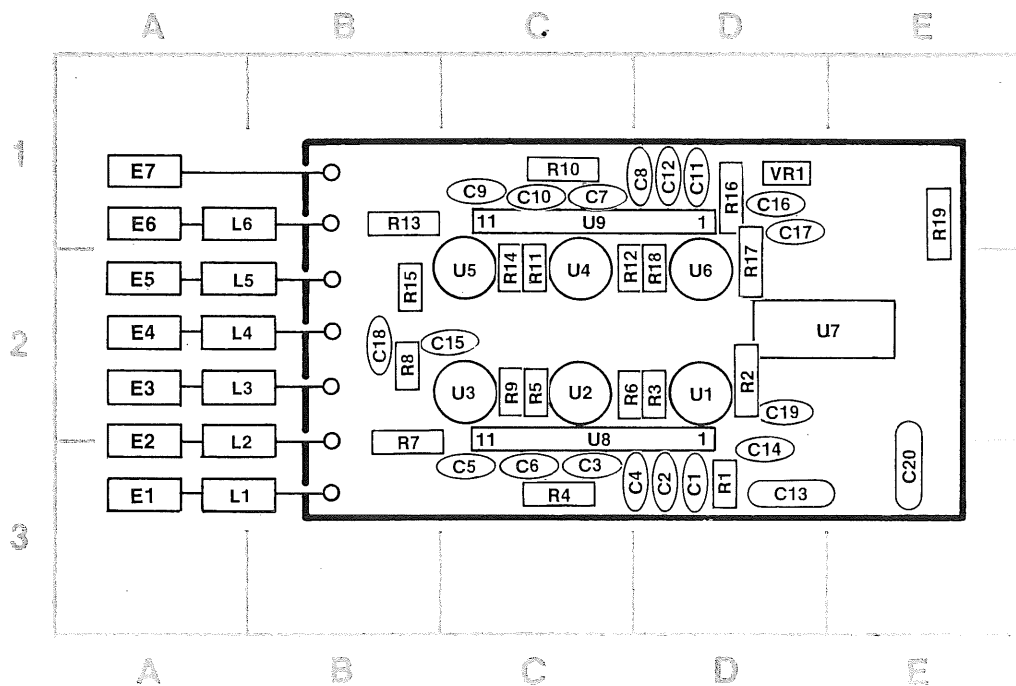
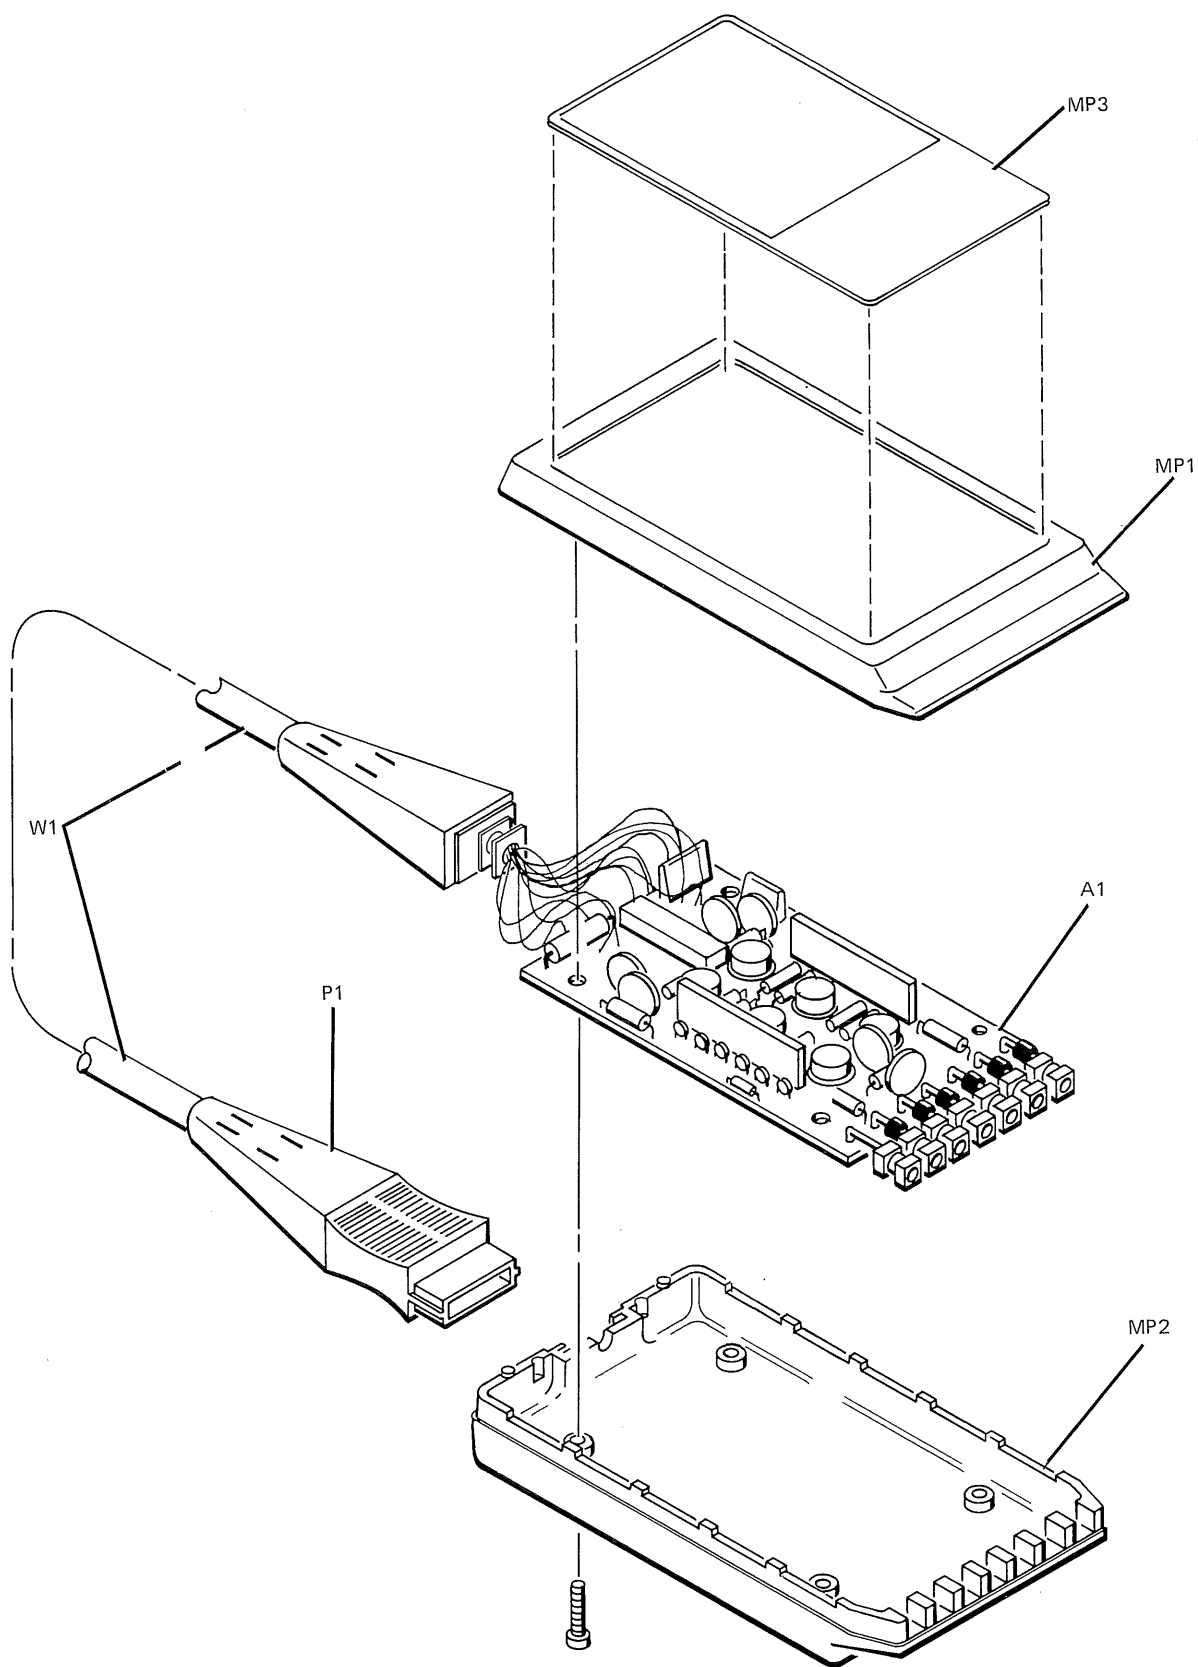

Figure 2. Model 10231B Component Identification
Figure 4. Model 10231B Exploded View
22. Table 2 lists the replaceable parts and identifies the Hewlett-Packard part number of each item. Figure 2 shows the location of each component. Figure 4 is an exploded view of the Model 10231B.